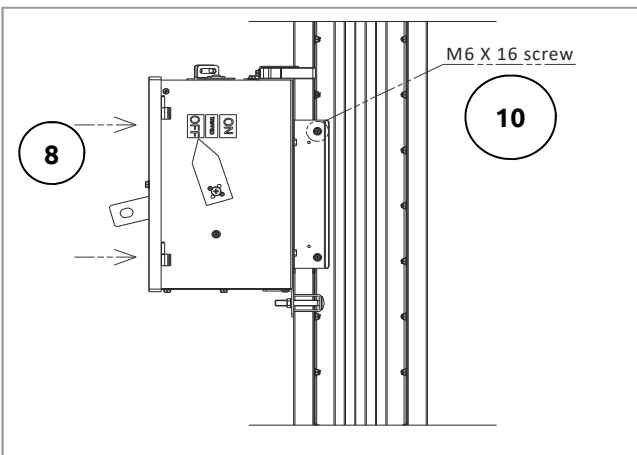

Figure 20.2
8. Push the stabs into full contact with the busway and push the upper part until reach the stopper (Figure 20.2 and 20.3)